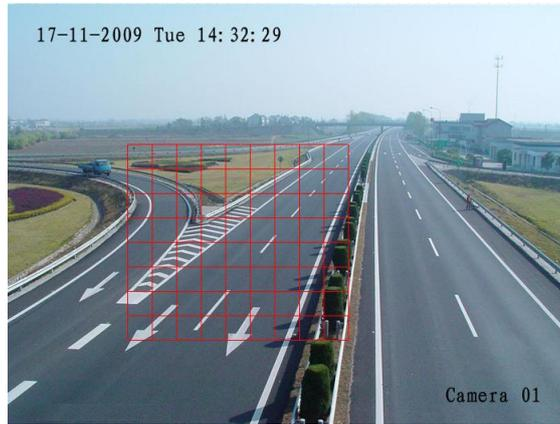

Figure 3. Motion Detection Area
4. As shown in Figure 3, the Motion Detection area allows you to mask areas you want to configure motion detection. The maximum area can be set to be full screen. You can left click mouse, hold and drag it to mask the Motion Detection area. Using **EDIT** button and direction buttons can also help you to select Motion Detection area.